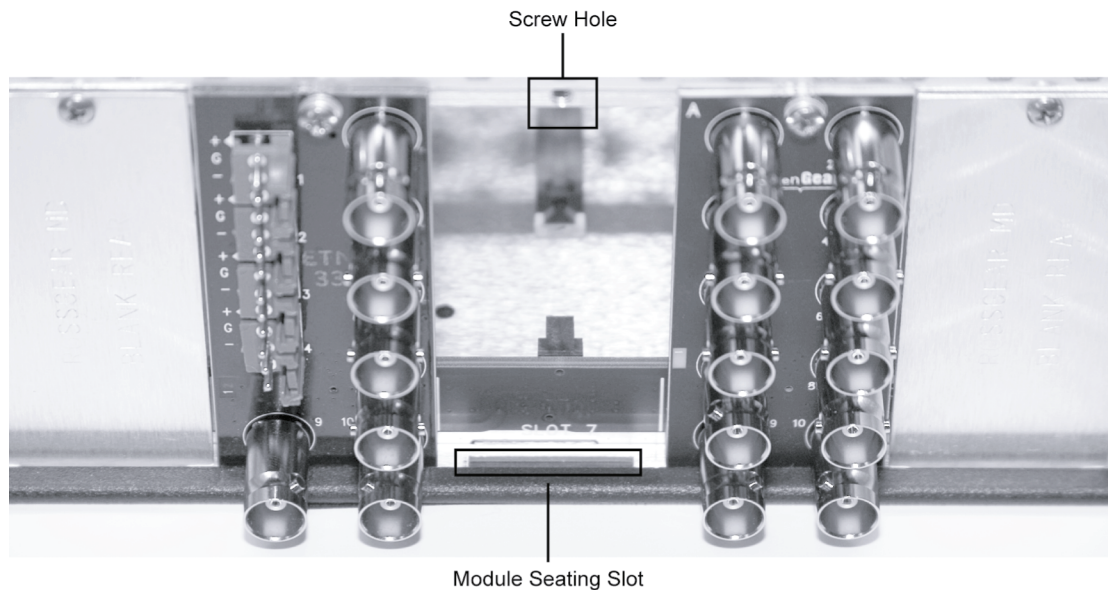

Figure 2. Rear Module Installation
3. As shown in Figure 2, seat the bottom of the RM-8300-B in the seating slot at the base of the frame's back plane.